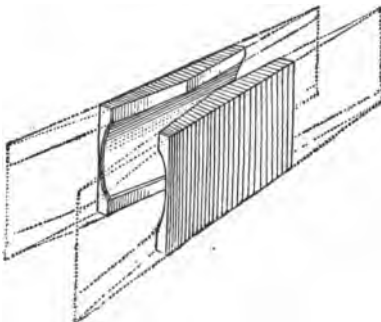

Fig. 436. Eisemann Pole Pieces
**Eisemann Dual Magneto.** Dual magnetos are used on large trucks and some touring cars. The Eisemann type is waterproof and very compact. The pole pieces, also an Eisemann feature, are tapered, Fig. 436. This gives a projection in the center which is used to shorten the magnetic break of the armature at the retarded position and produces a uniform spark throughout its range of advance.